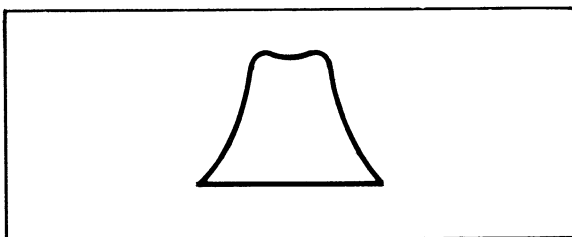

Figure 6-9. Typical Appearance of Detected Output with Sweep Generation Input
- f. Figure 6-9 shows a typical "front end" frequency response obtained during sweep frequency measurement. The somewhat saddle-backed shape is typical of slightly over-coupled tuned circuits, and of properly adjusted stagger-tuned channels. Become familiar with setting up such a display on a TV set known to be good. Only with the technique perfected can one be fairly sure that an improper display is the fault of the set. A minor departure usually can be remedied by tuning adjustments. A major departure might also indicate a loose connection in the tuner, or possibly the need to find and replace a faulty component.